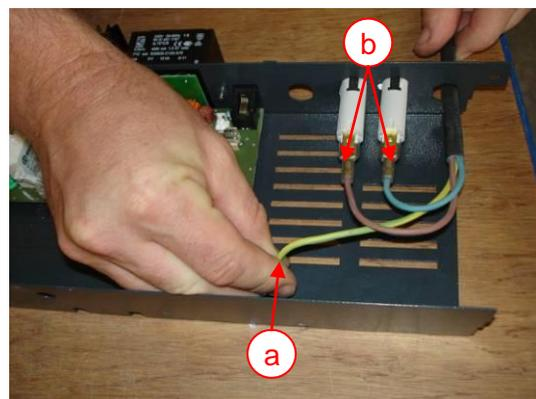

Fig. 36 – power cord connection
- Unplug grounding wire from terminal (fig. 36 a)
- Unplug the wires from the cut outs (fig. 36 b)